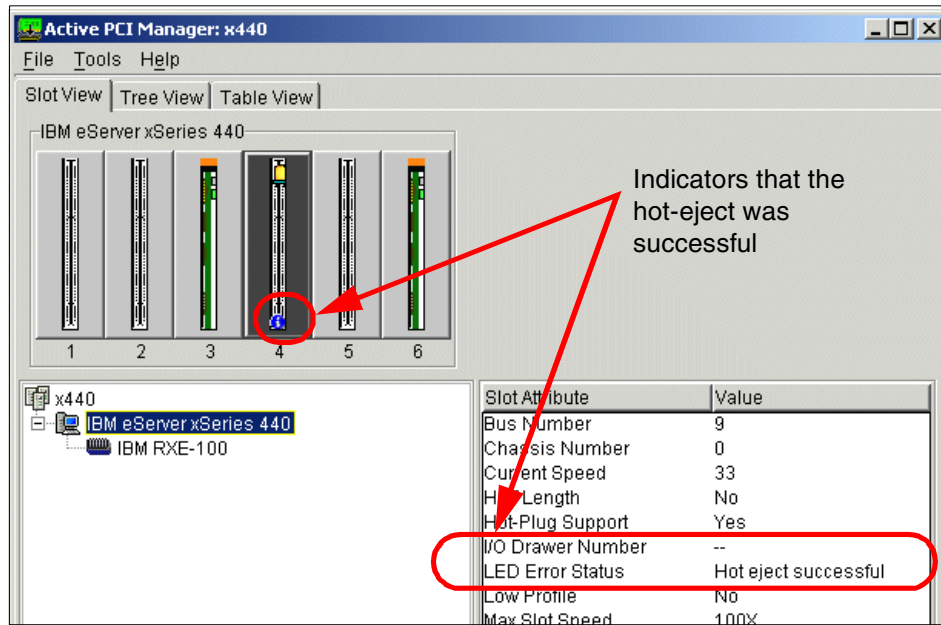

Figure 5-20 Hot eject successful
7. Active PCI Manager then shows the adapter has been removed, as shown in Figure 5-20 on page 149, by adding an  to the bottom of the graphic and changing the LED error status to “Hot eject successful”.